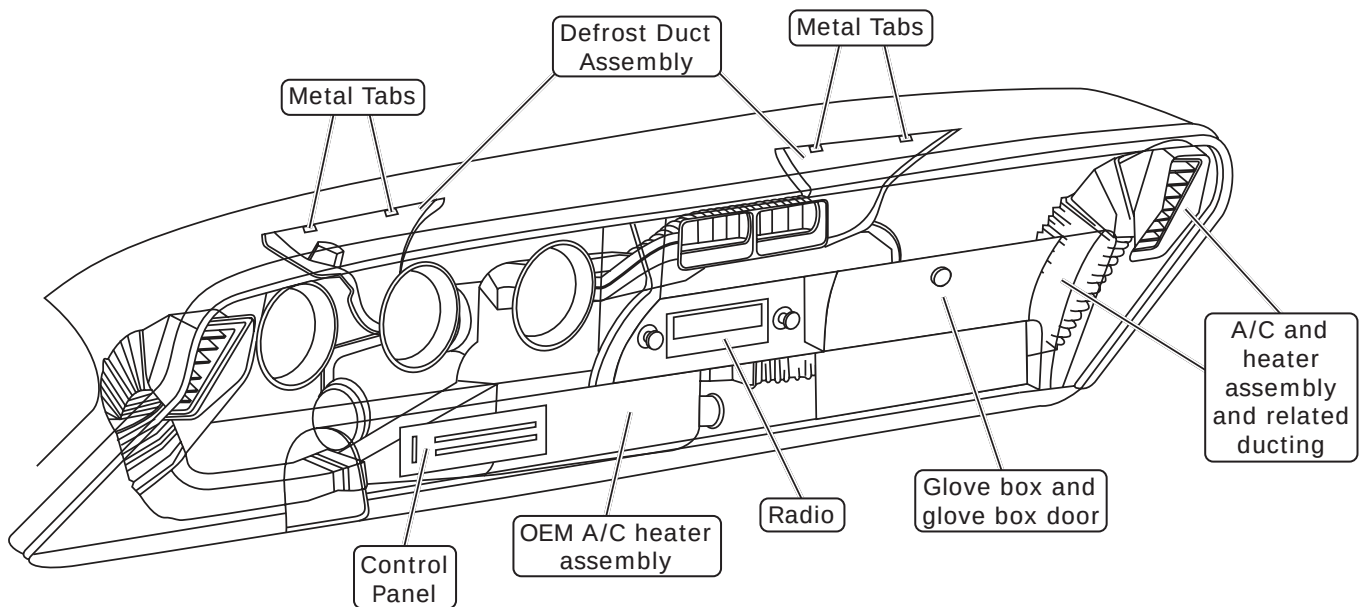

Figure 1
7. Remove the OEM A/C and heater assembly (discard) (See Figure 1, below).